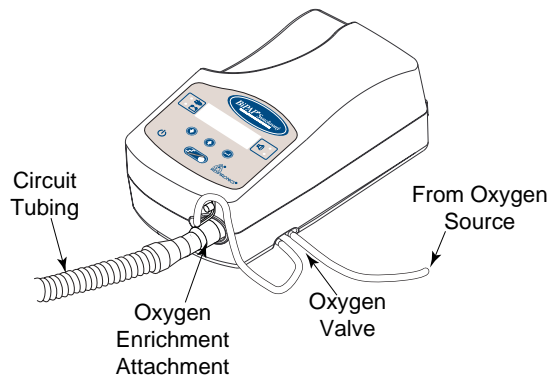

Figure 8-2 Attaching oxygen tubing to the Synchrony
Step 1 As shown in Figure 8-2, attach oxygen tubing to the rear oxygen valve port. The oxygen valve prevents oxygen from entering the Synchrony enclosure when the Synchrony is stopped.